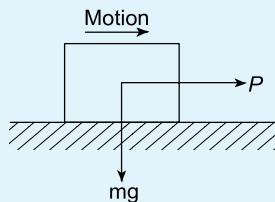

Figure 16.13
- A mass of 40 kg rests on a flat horizontal surface as shown in Figure 16.13. If the coefficient of friction $\mu = 0.2$, determine the minimum value of a horizontal force P which will just cause it to move.